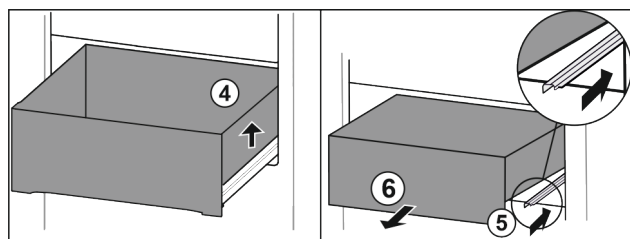

Fig. 15
- Lift drawer on the right Fig. 15 (4).
- Insert right rail Fig. 15 (5).
- Take out the drawer to the front Fig. 15 (6).